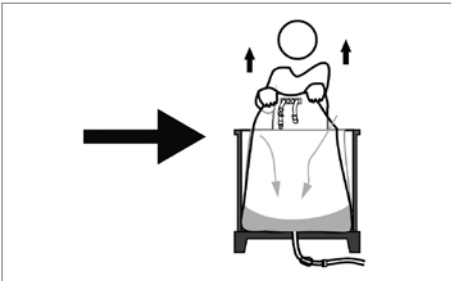

Fig. 25
3. The bag collapses as it is drained. The sloped bottom of the Palletank® and the position of the drain hole provide nearly 100% fluid recovery. This efficiency can be improved by lifting the bag at the end of the operation (see Fig. 25).